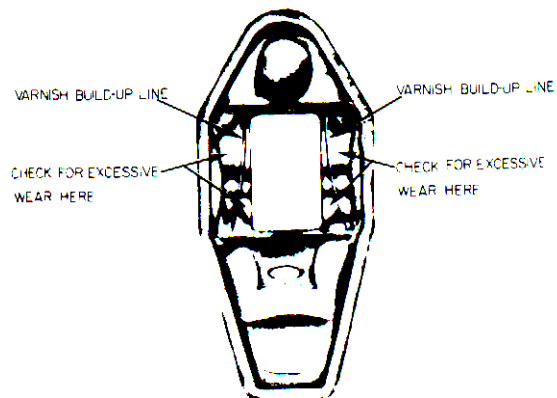

Figure 1. View Showing Interior of Rocker Arm
2. Inspect the fulcrum seating surface in the rocker arm. See figure 1. The surface will show a polish or burnishing which occurs during break-in of the engine. This is normal and not a cause for replacement. However, a developed wear step of more than .003 inch is considered excessive wear and would require replacement of the rocker arm. Do not interpret varnish build-up lines on the seating surface of the rocker arm as wear.